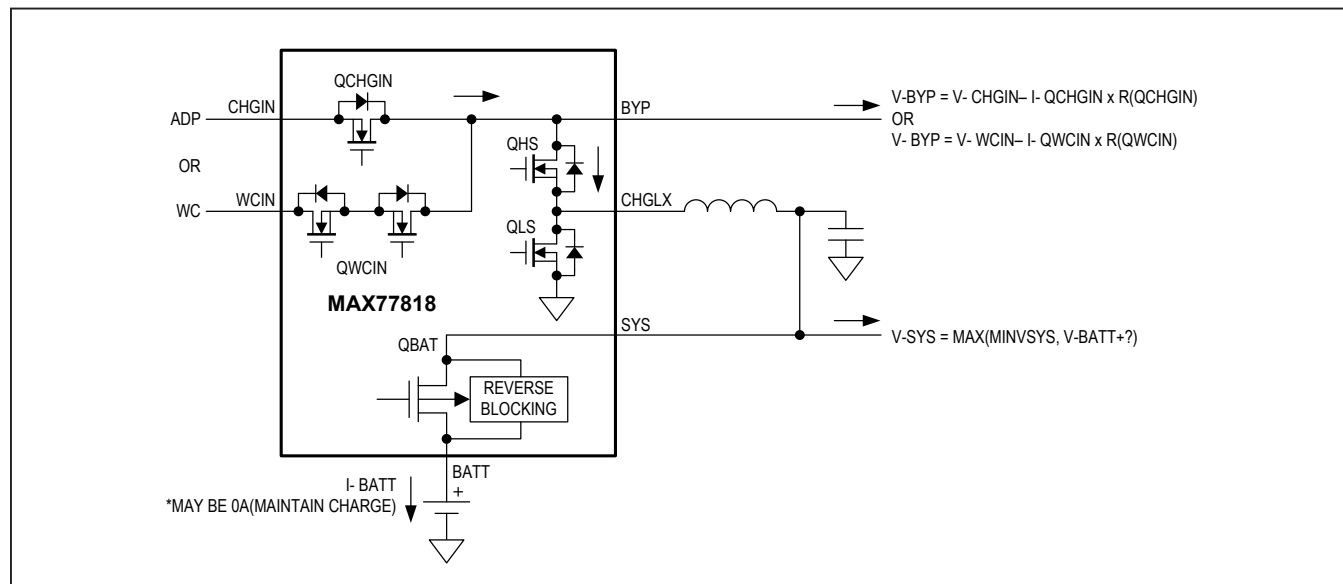

Figure 14. Charge Buck
**Charge Buck, MODE = 0x0D:** Adapter or wireless charger are detected, within the input voltage operating range (QCHGIN = on or QWCIN = on). Battery is connected in charge mode (QBAT = on), and charger is operating in buck mode. See Figure 14.